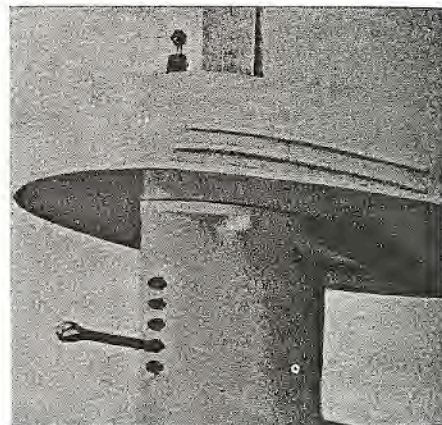

Fig. WB26—Compress and hold the cam spring as shown, when assembling the lower unit.
Assemble by reversing the disassembly procedure, making sure that plunger (14) is installed with rounded end protruding from propeller shaft. Plunger must fit in slotted notch of clutch release cam (20). Before installing gearcase to lower motor leg, depress the spacer (19) and insert a cotter pin or nail in next to lowest water inlet port as shown in Fig. WB26, to prevent interference during assembly.